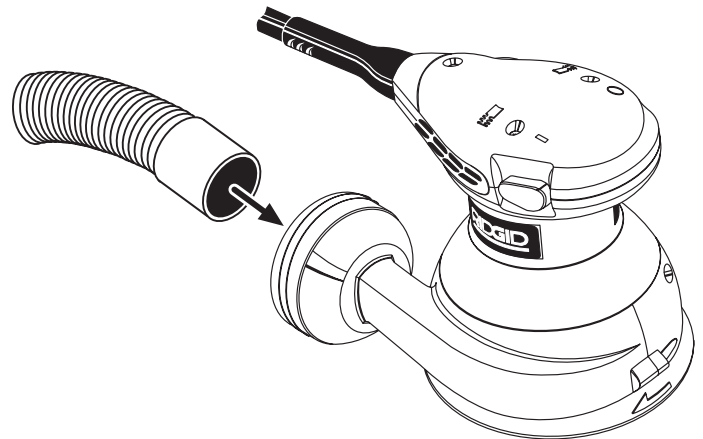

Fig. 5
See Figure 5.
3. Attach vacuum hose to blower exhaust as shown in figure 5.